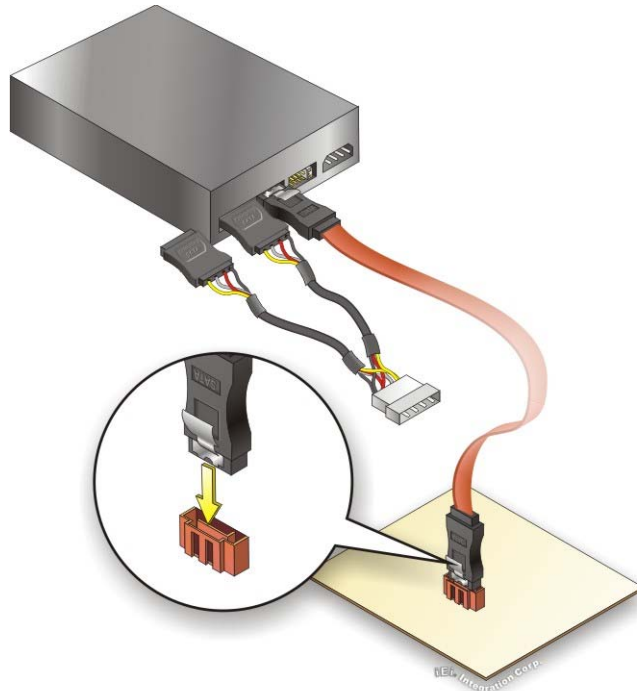

Figure 4-19: SATA Power Drive Connection
Step 3: **Connect the cable to the SATA disk.** Connect the connector on the other end of the cable to the connector at the back of the SATA drive. See **Figure 4-19**.
Step 4: Connect the **SATA power cable (optional)**. Connect the SATA power connector to the back of the SATA drive. See **Figure 4-19**.